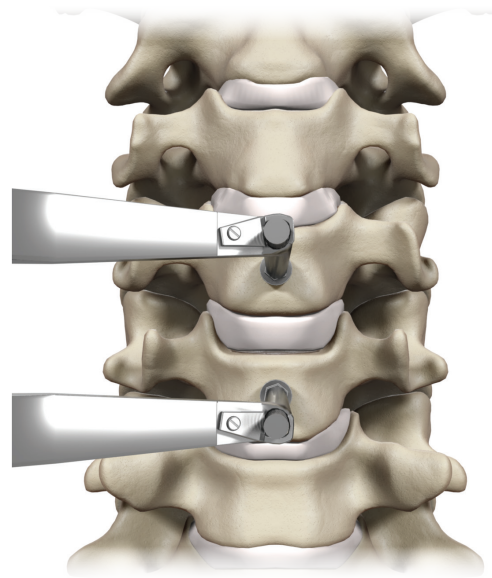

Figure 2
- The anterior cervical anatomy is exposed in the standard fashion by identifying a dissection plane between the trachea and esophagus. Exposure is then held in place with self-retaining retractors (Figure 2).